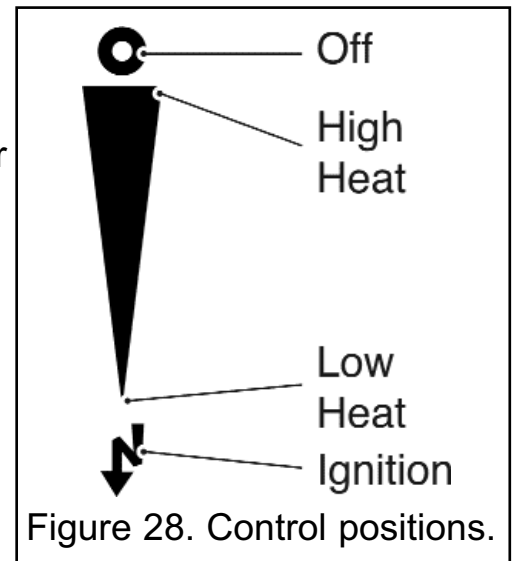

Figure 28. Control positions.
The control position markings on the fascia are shown in figure 28.
1. Gradually slide the button up to increase the burner setting. The burner should be at its maximum setting at the high heat position shown in figure 28. You should feel a check to the button movement at this position.